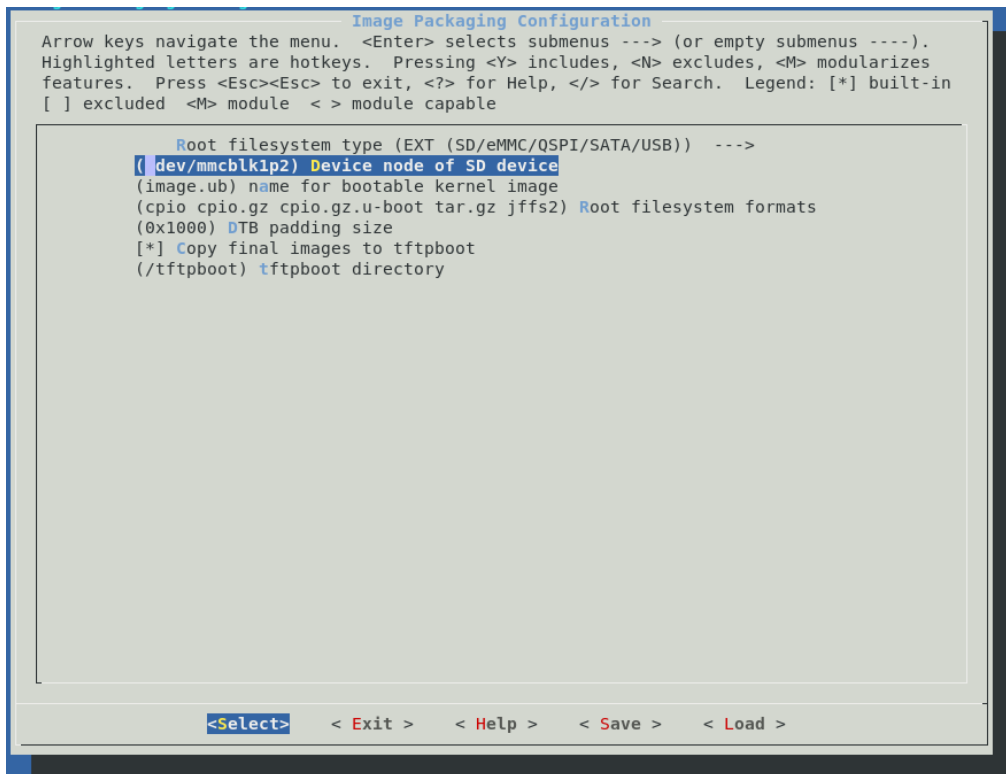

Figure 6
11. This GUI will allow us to control various build options, but we want the tools to handle everything for us so the only thing we will do is change the boot location to be the SD card. To do this, select the “Image Packaging Configuration” option and then select “Root filesystem type.” This will bring up a smaller window with the options, from which we will **select the “EXT” option before “other” which includes “SD”** (among other things) as shown after selection on the first line in Figure 6.
12. After the type has been selected, a new menu item called “Device Node of SD device” will have appeared below it. **Select this option and change mmcblk0p2 to mmcblk1p2** as shown on the second line in Figure 6.